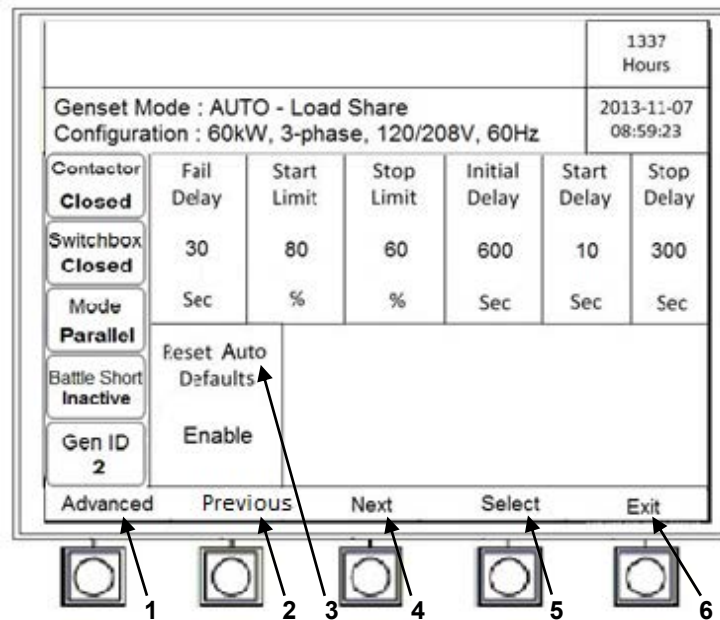

Figure 4-7. System Setup Screen
- c. Verify settings on [System Setup] screen (figure 4-7). If no adjustments are desired, proceed to step k.
- d. Press [Next] (figure 4-7, item 4) or [Previous] (figure 4-7, item 2) to highlight areas for selection.
- k. Repeat steps 1 and 2 to return to the [System Setup] screen (figure 4-7).
- l. Press [Advanced] (figure 4-7, item 1).